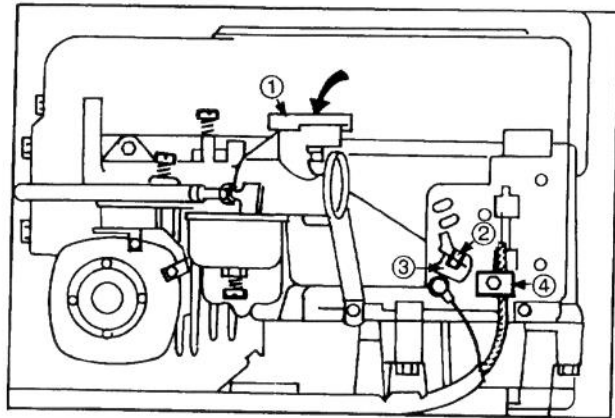

Figure 20
2. Move throttle control lever to CHOKE position and check the position of the choke butterfly; it should be fully closed (Fig. 20).
3. Move throttle control lever to FAST position. The butterfly should be in the fully open position (Fig. 20).
2. Loosen the throttle cable clamp screw (Fig. 20) and move the control cable casing and wire until the throttle lever touches link.